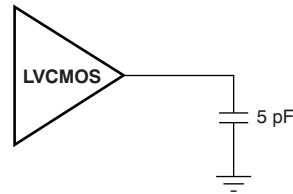
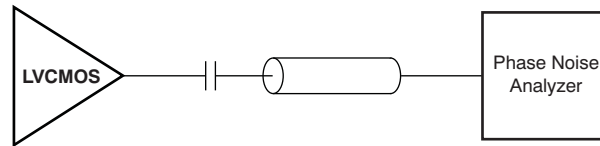
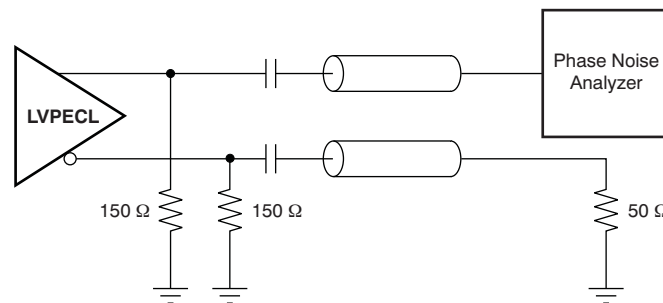
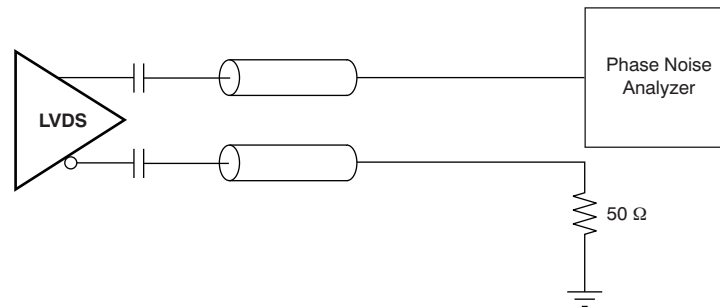

Figure 7. LVC MOS Output Loading During Device Test
Figure 8. LVC MOS AC Configuration During Device Test
Figure 10. LVPECL AC Configuration During Device Test
Figure 12. LVDS AC Configuration During Device Test
- (1) Figure 7 and Figure 8 show DC and AC test setups, respectively. Jitter measurements made using 25-MHz quartz crystal inches.
250-MHz LVCMOS OUTPUT⁽¹⁾ (See Figure 8)
625-MHz LVPECL OUTPUT⁽²⁾ (See Figure 10)
625-MHz LVDS OUTPUT⁽³⁾ (See Figure 12)
(1) Figure 8 shows test setup and uses 25-MHz quartz crystal in, V_{CC} = 3.3 V, and T_A = 25°C.
(2) Figure 10 shows test setup and uses 25-MHz quartz crystal in, V_{CC} = 3.3 V, and T_A = 25°C.
(3) Figure 12 shows test setup and uses 25-MHz quartz crystal in, V_{CC} = 3.3 V, and T_A = 25°C.
(1) Figure 8, Figure 10, and Figure 12 show LVCMOS, LVPECL, and LVDS test setups (respectively) using appropriate quartz crystal in, V_{CC} = 3.3 V, and T_A = 25°C.
This section describes the function of each block for the CDCM61004. Figure 7 through Figure 13 illustrate how the device should be set up for a variety of output configurations.